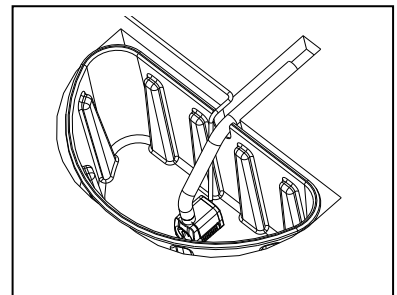

Fig. 5
5. Place the pump inside the reservoir. Route the tubing and powercord through the notch in the reservoir. Fig. 5